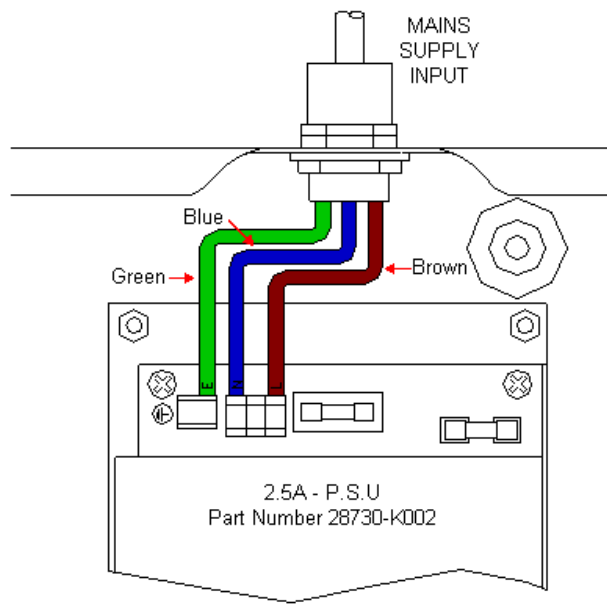

Figure 5: Mains Supply Input
The Vega LT control panel receives power from either a 230V, 50Hz or 120V, 60Hz power supply. The mains supply cable must take the shortest route possible from entering the enclosure to the mains supply terminals. Refer figure 5. The cable must maintain an air gap of 50mm minimum between it and any other conductors.
The incoming power feed cable Earth (Green or Green/Yellow) wire should be connected to the terminal block earth connection – Left hand terminal. The Neutral (Blue) wire should be connected to the middle terminal marked (N) and the Live (Brown) wire connected to the right hand terminal marked (L). Refer to Figure 5.